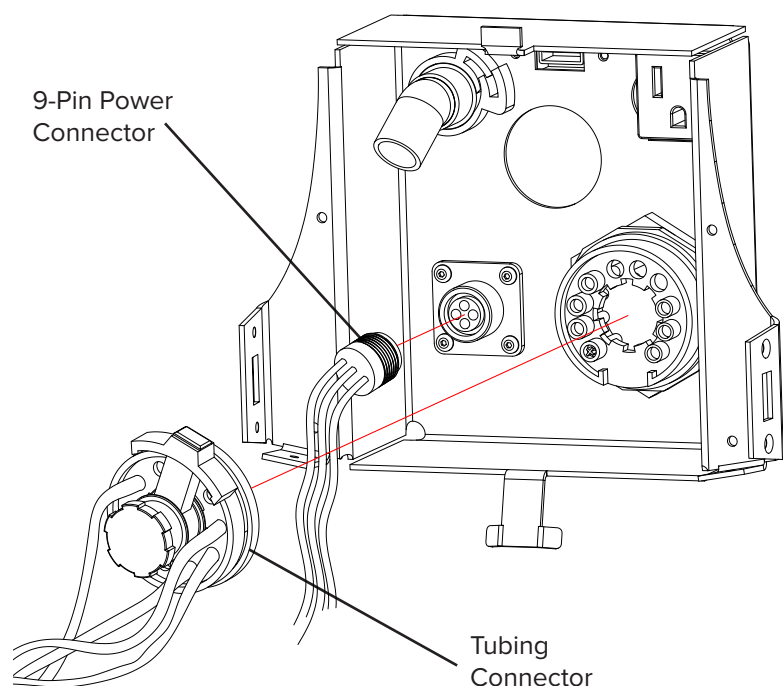

Fig 10.9
1. Plug in 9 Pin Power Connector and Tubing Connector as shown in Fig 10.9.